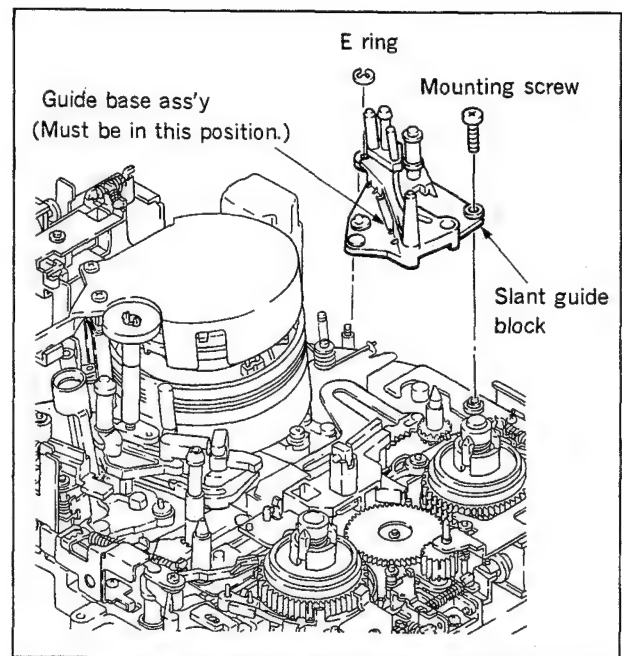

Fig. 4-12-4 Slant guide block replacement/ installation
- 1) Hold the guide base ass'y of the replacement slant guide block at the unthreaded end (i. e. guide base ass'y is positioned to the reel table side shown in the figure), then set it on the mechanical deck. (Fig. 4-12-4)